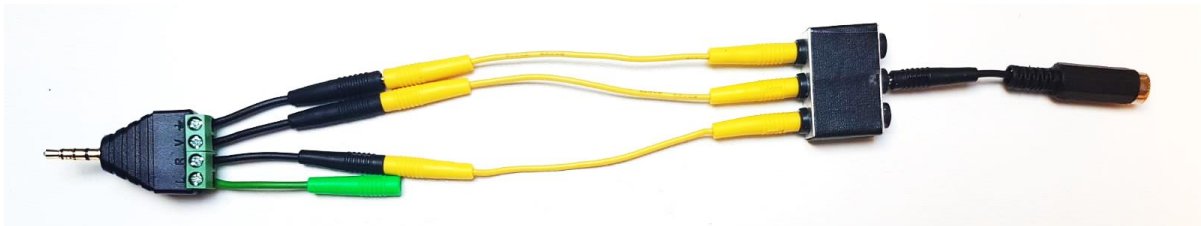

Figure 5 – From right to left: power to signal adapter, signal expander and data to quad signal adapter
1. Show a static two-digit text in combination with appropriate cabling (see Figure 5).